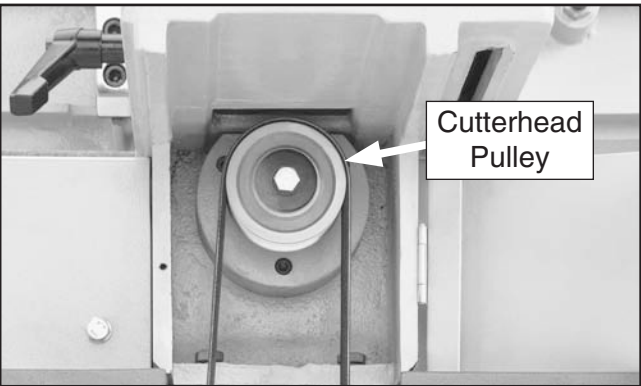

Figure 42. Cutterhead pulley.
- 2. Open the hinged pulley guard at the back of the machine to gain access to the cutterhead pulley shown in **Figure 42**.
5. Open the hinged cutterhead guard at the back of the machine to gain access to the cutterhead pulley shown in **Figure 42**.